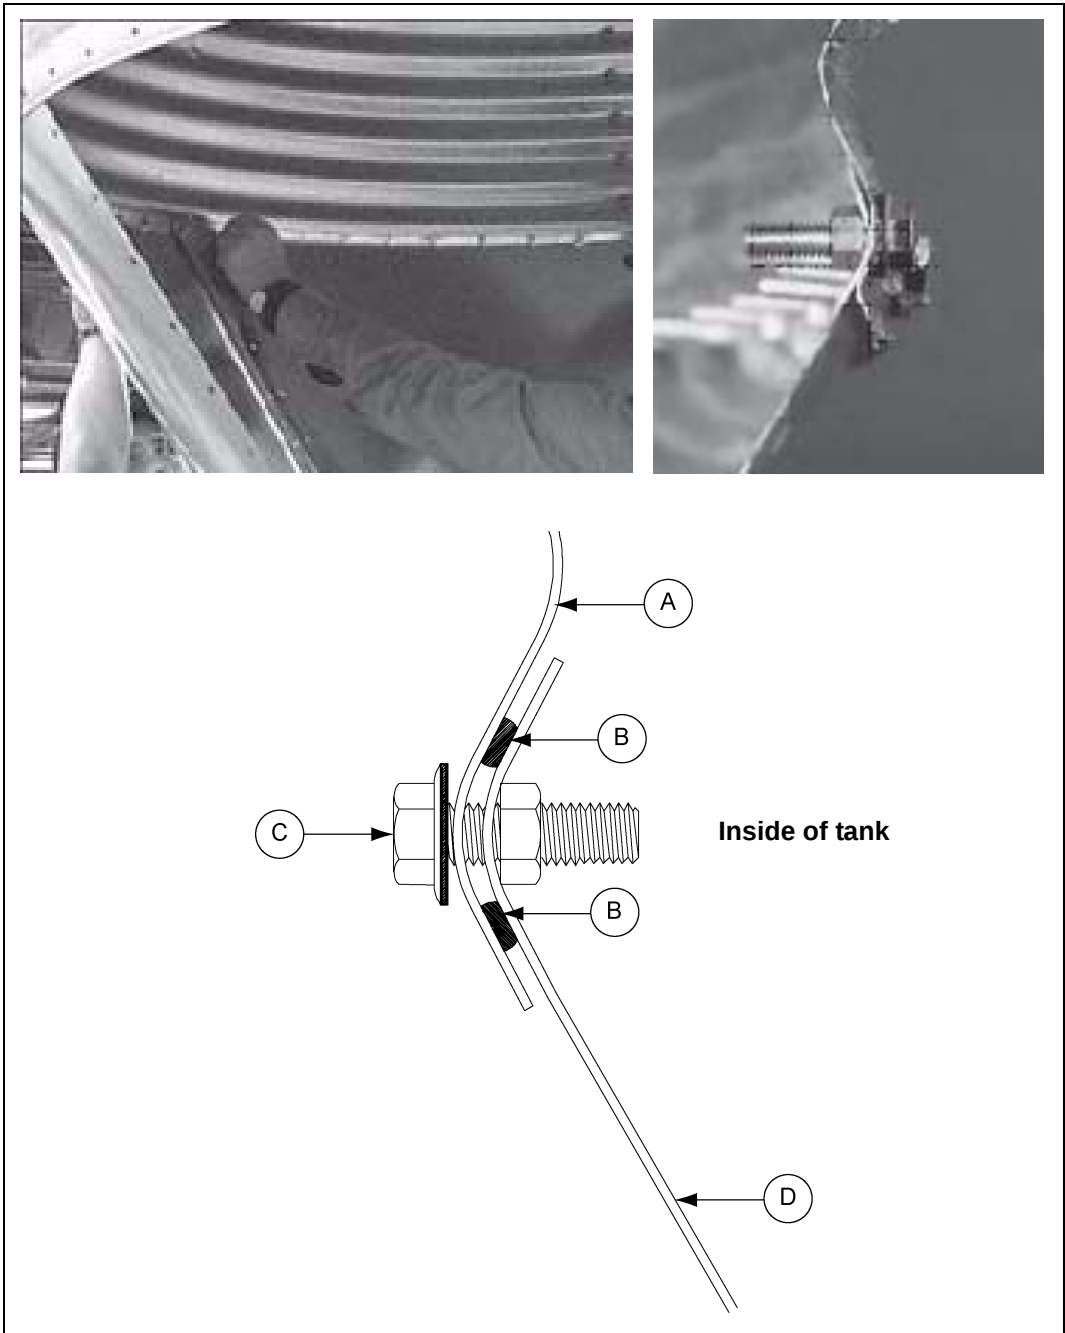

Figure 12B Hopper Sheet to Sidewall Sheet
When starting to attach hopper sheets to sidewall it is recommend that the first hopper sheet seam be positioned halfway between leg positions. Lap the hopper sheets as shown in Figure 12B on Page 64. Apply two (2) strips of caulking on all seams at sidewall to hopper and hopper sheet to hopper sheet. Be sure to place the head of the truss bolt on the inside of hopper. Leave one hopper sheet out to allow room to install hopper collar. Be sure to use two (2) strips of caulking between hopper collar and hopper sheets, then put last hopper sheet in place.